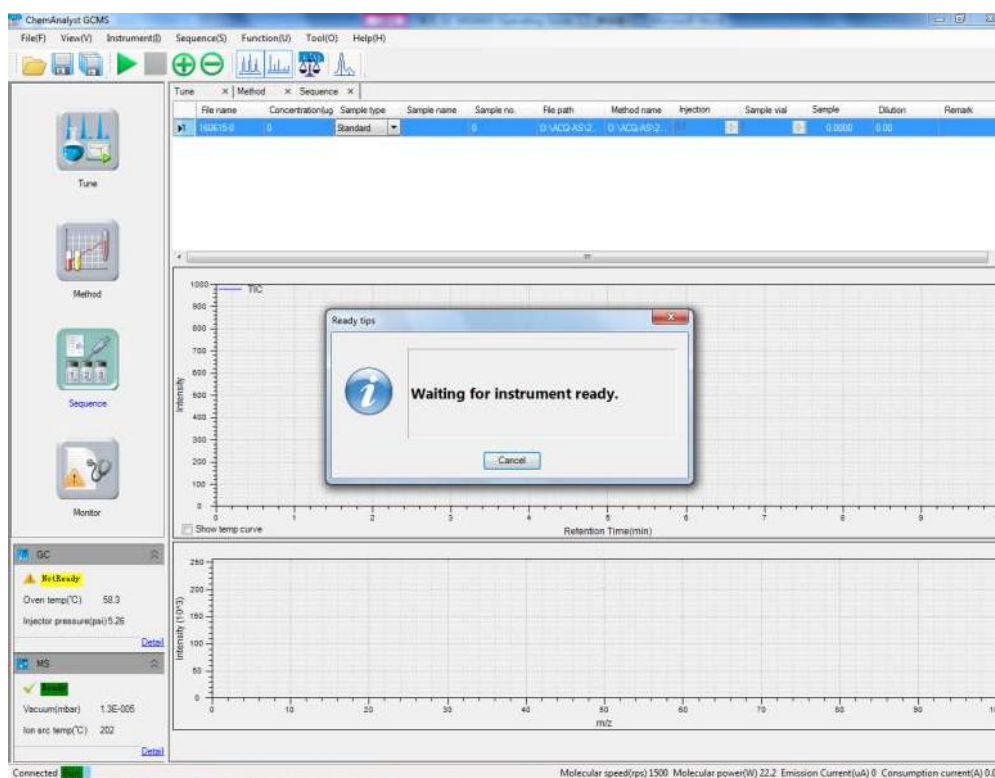

Figure 6-1 Sequence Feedback Panel
- (1) Click [Sequence] to switch to sequence acquisition window, as shown in Figure 6-1.
- (2) Add sequences.
- (3) Set the data file information and sample information.
- (4) Click the Start Acquisition button on the toolbar to be ready for acquisition.
- (5) If GC and MS are [Not Ready], the sequence will be waiting and not enter the waiting-for-injection status until GC and MS are Ready.
- (6) After entering the waiting-for-injection status and injection completed, press the [Start] button on GC panel to start sequence acquisition.
- (7) If the instrument is running with air or performing some tests of less repeatability requirement for injection, the operator may press the [Start] button on GC panel to force to start sequence acquisition.